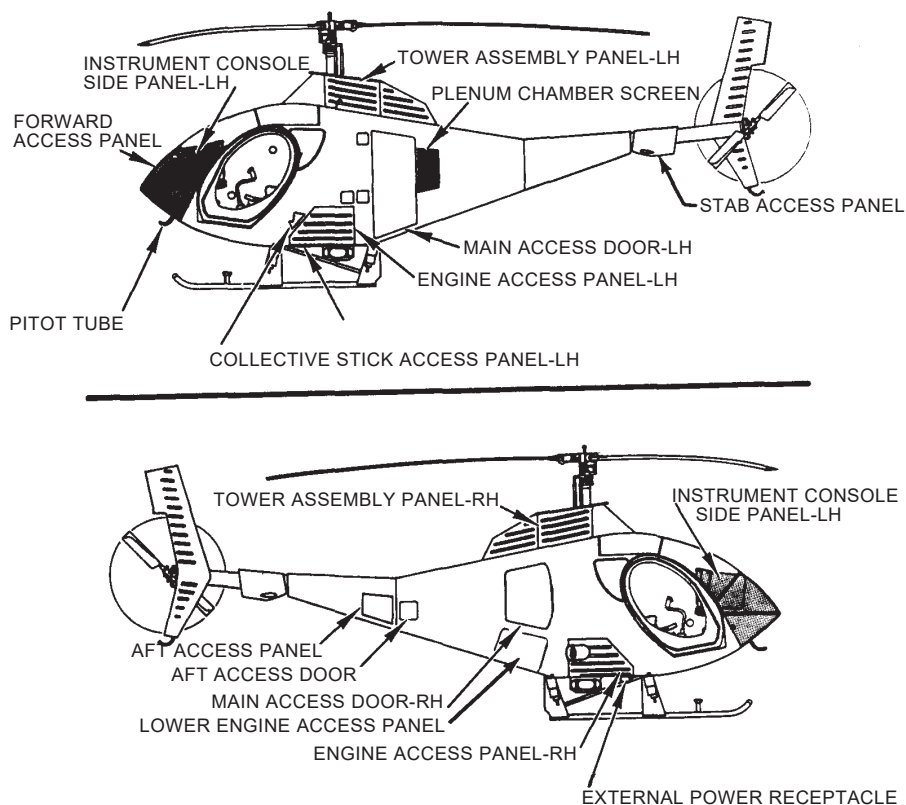

Figure 7-6. Access and Inspection Provisions and Locations
- Locations of access and inspection provisions are shown in Fig. 7-6. Areas, components and items accessible through the locations shown in Fig. 7-6 are listed in Table 7-3.
NOTE: Refer to Fig. 7-6 for location of listed doors and panels.